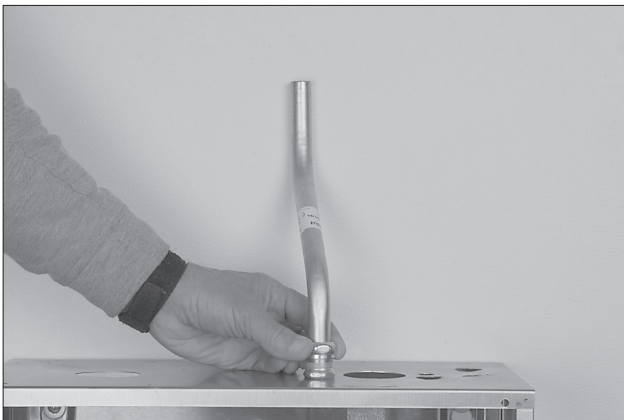

FIGURE 5-87
2. Install the conduit offset (Part No. 435961) into the conduit connector and tighten the nut. See Figure 5-87.